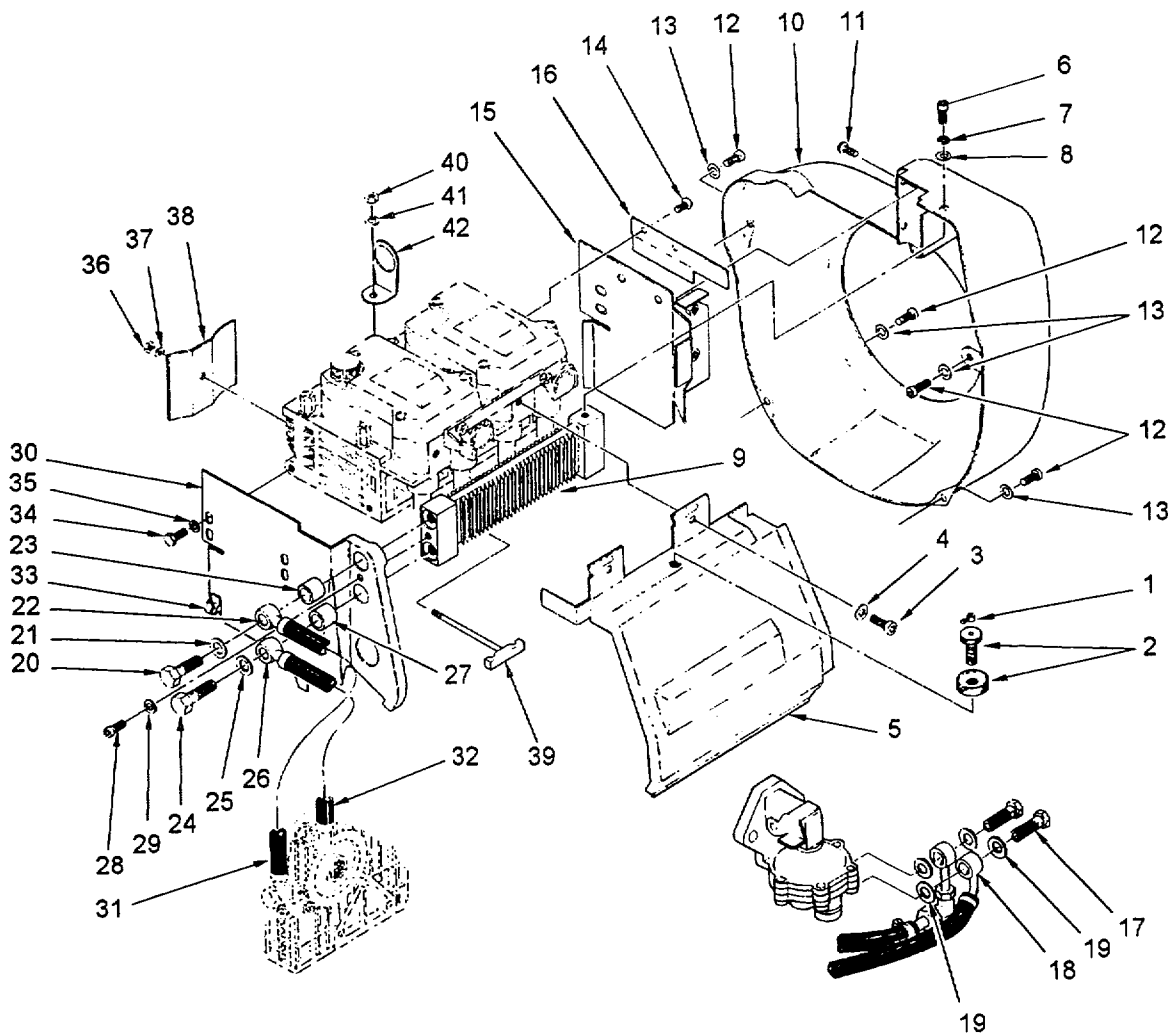

Figure 6-3. Shroud, Cylinder Casing and Gates Removal
6.3.2 Remove Engine Shroud, Cylinder Casing and Gates. (Refer to figure 6-3.)